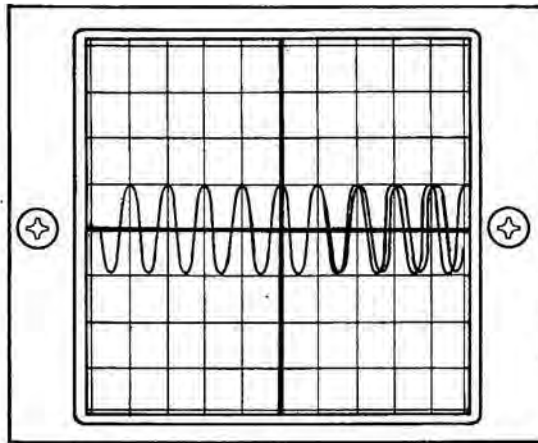

Figure 3-15 Displayed Sinewave With Rightmost Portion Slightly Blurred
- 6. Adjust VAR/OFF Control (25) until DEVIATION/WATTS Meter displays 2 kHz and verify that the rightmost portion of sinewave becomes slightly blurred (see Figure 3-15).